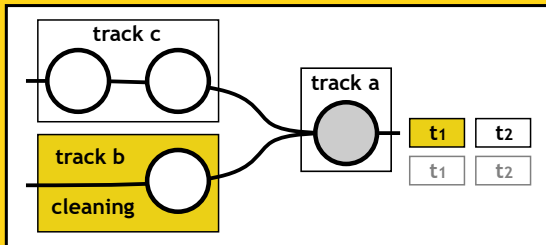

Figure 1. A shunting yard consisting of 3 tracks, one offering cleaning. Trains t_1 (requiring cleaning) and t_2 are parked at this yard.
- Mostly tree-like yards and only unit-length trains are considered (Figure 1).